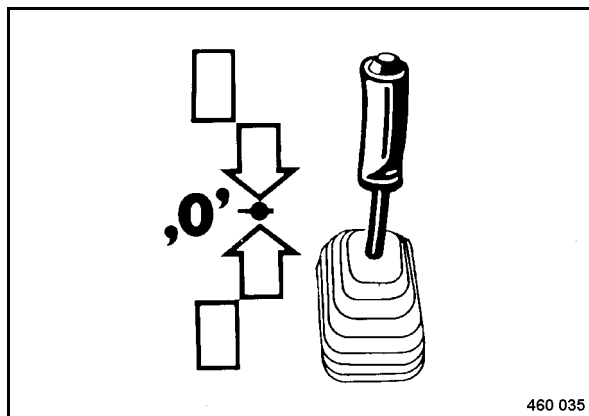

Fig. 52
- Shift the travel lever (Fig. 52) slowly to position "0". The hydrostatic drive automatically brakes the machine.